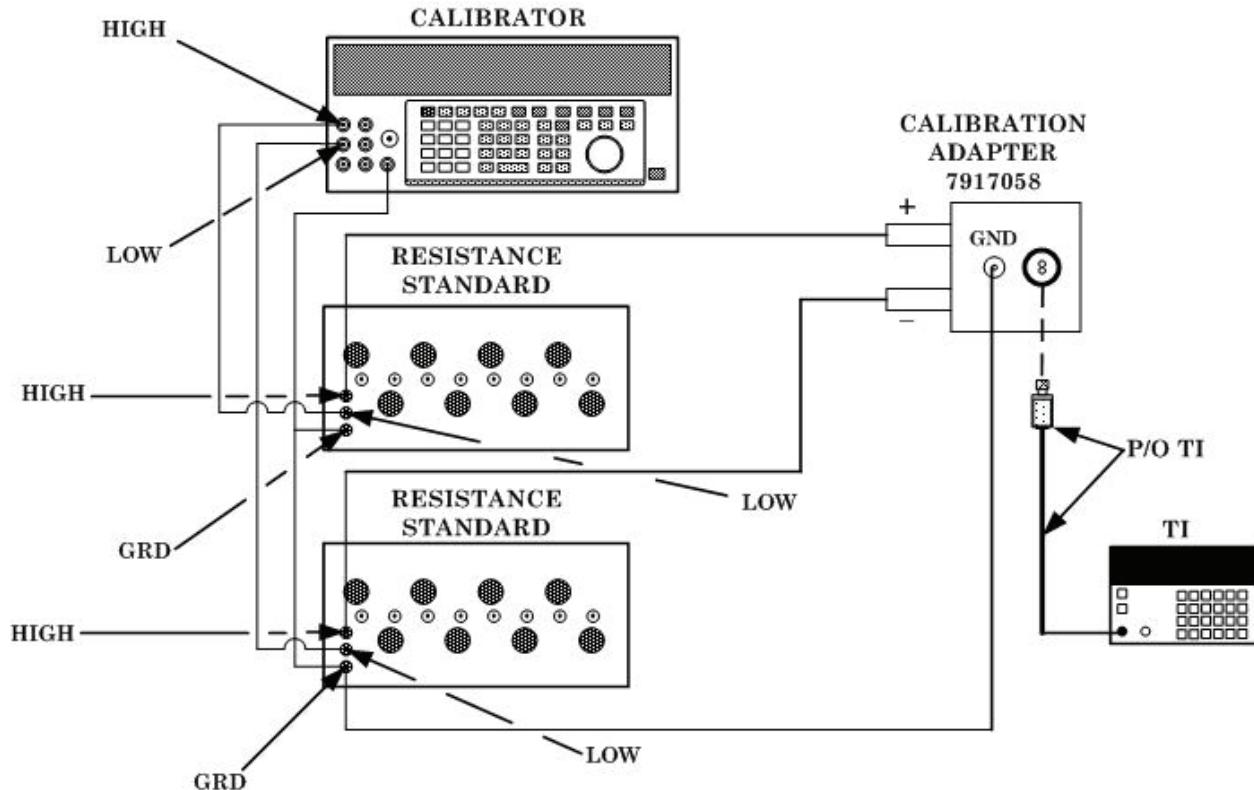

Figure 4. DC accuracy, low ranges - equipment setup.
(5) Set calibrator to **OPR** at 0 V dc output.
(6) Set both resistance standards for R_d value calculated in (4) above and connect equipment as shown in figure 4.
(7) Set TI LINE power switch to **ON**.